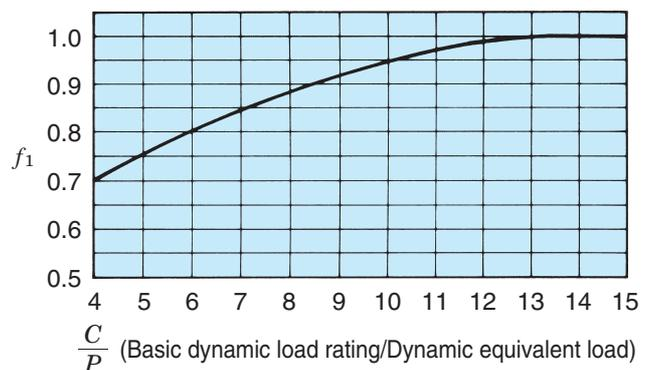

Fig. 4.5
- f_1 : correction coefficient determined from the load magnitude (**Fig 4.5**)